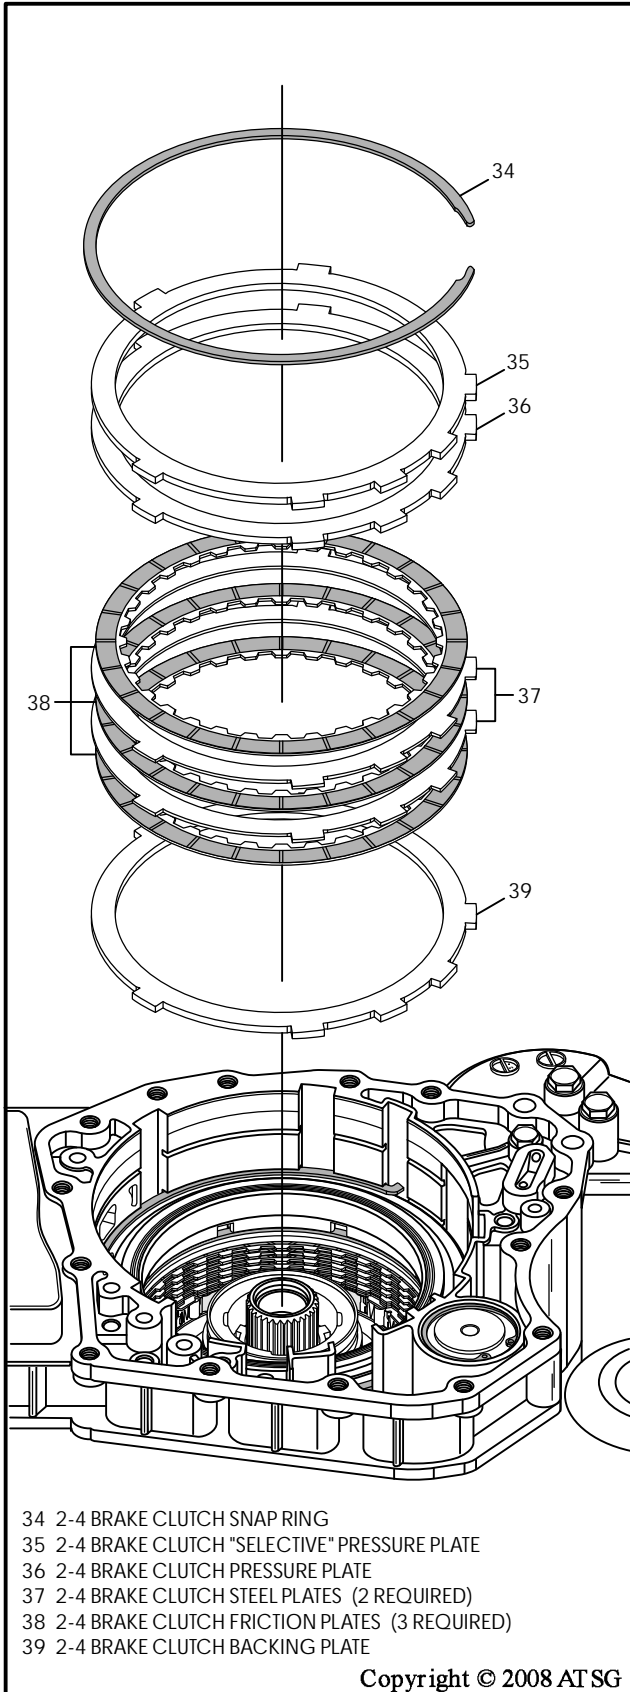

Figure 59
73. Remove 2-4 brake clutch pressure plate snap ring, as shown in Figure 59.
74. Remove both 2-4 brake clutch pressure plates, as shown in Figure 59.
75. Remove 2-4 brake clutch pack from transaxle case, as shown in Figure 59.
76. Remove 2-4 brake clutch backing plate from case, as shown in Figure 59.